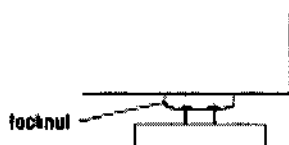

Fig. 1-7
10. When the washer is level, use a 9/16" (14.3 mm) open-end wrench to securely tighten all four (4) feet locknuts against the pedestal. (Fig. 1-7) **The locknuts must be tightened.**